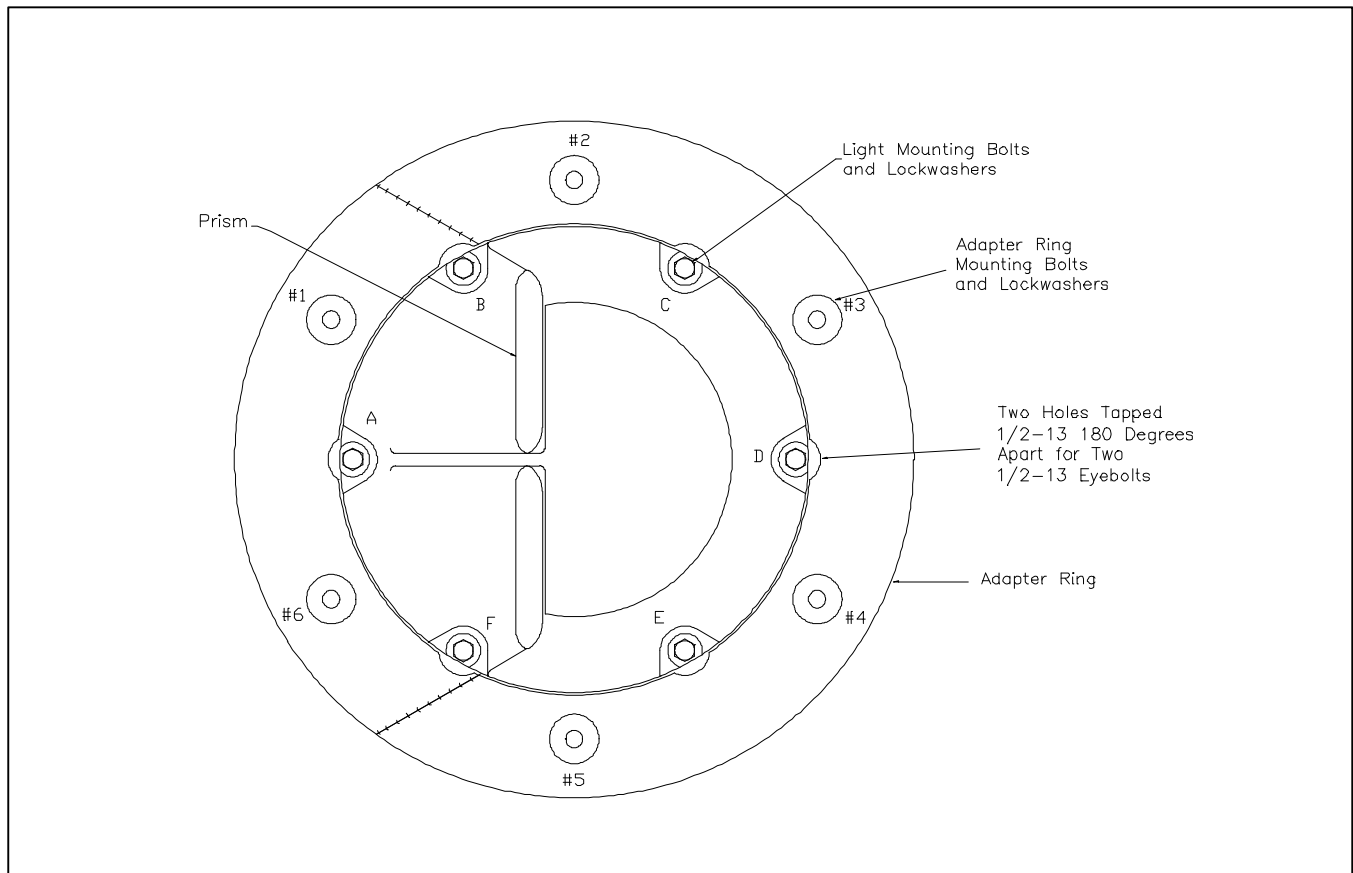

Figure 8. Mounting Bolt Location
- See Figure 8. Use six customer-supplied 3/8–16 x 7/8 in. adapter ring mounting bolts and 3/8 in. (9.6 mm) lockwashers to bolt the adapter ring to the light base receptacle.
7. See Figure 8. Use six customer-supplied 3/8-inch (9.6-mm) light mounting bolts and lockwashers to bolt the assembly into place.
2. See Figure 8. Remove the light assembly from the adapter ring by removing all six adapter ring mounting bolts and lockwashers.